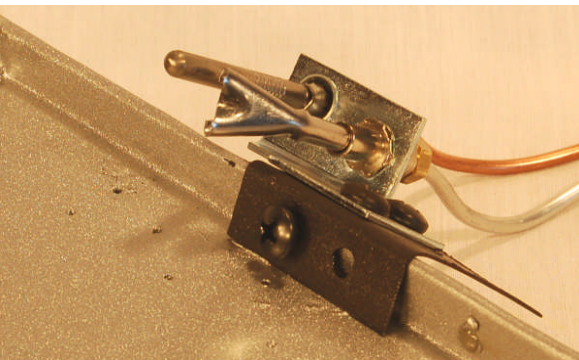

FIGURE 8 – PILOT MOUNTED ON PAN
- 3- Using a #2 Phillips Screw Driver, and the screw that you have just removed, mount the pilot to the rim of the burner pan. (SEE FIGURE 8)